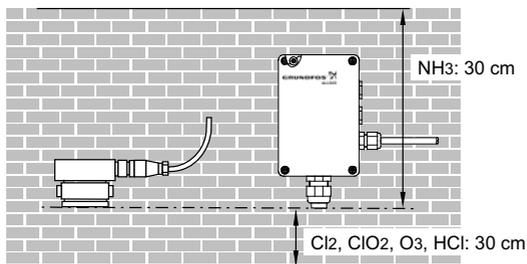

Fig. 6 Mounting the sensor
1. Attach the supplied mounting accessories to the wall so that the sensor is placed about 30 cm above the ground. See fig. 6.
- Install the sensor interface in the following way. See fig. 6.